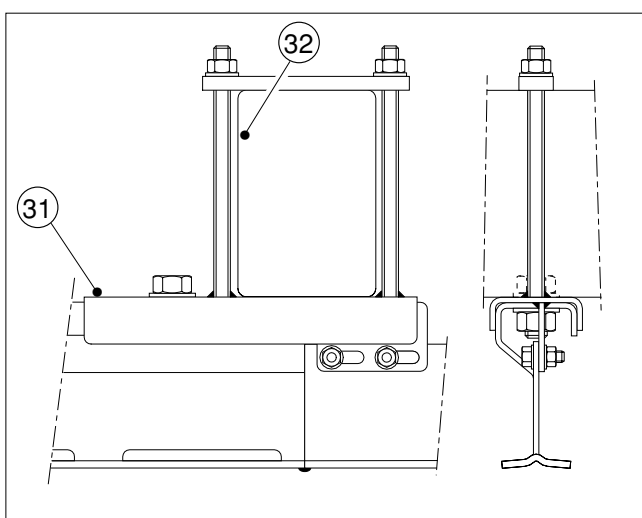

fig.15.2
- clamping the connecting profile to the beam. See figure 15.2.